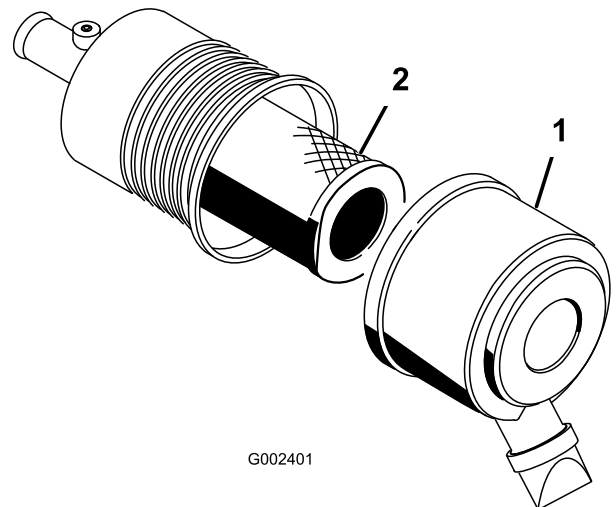

Figure 40
1. Release the latches on the air cleaner and pull the air-cleaner cover off the air-cleaner body (Figure 40).
3. Gently slide the filter out of the air-cleaner body (Figure 40).
5. Carefully slide the filter over the body tube (Figure 40).
6. Install the air-cleaner cover with the side facing up, and secure the latches (Figure 40).